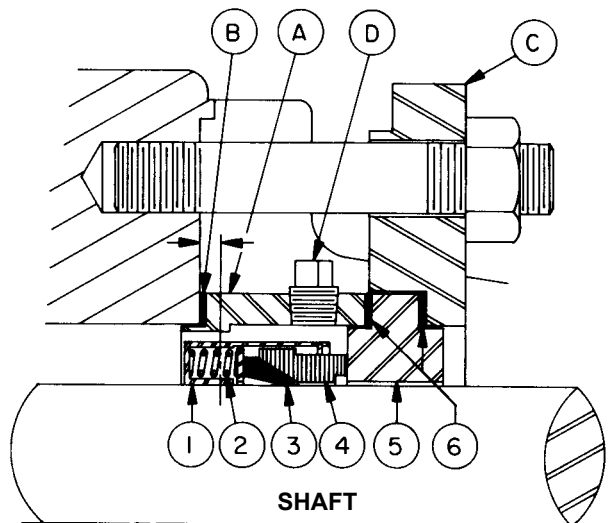

FIGURE 14
3. To remove the rotor, remove seal plate nuts from studs and remove seal plate, gaskets and stationary seat. Remove Packing box extension and gasket. Loosen set screws in mechanical seal retainer cartridge and remove from rotor shaft. **Refer to Figure 14, page 10.**
15. Inspect the mechanical seal for wear or damage. Refer to figure 14 for mechanical seal list of parts. In general, if the pump has been operated long enough to exhibit other worn parts, it is likely the seal will have to be replaced. Replacing individual seal parts is not recommended, i.e., a used seal washer will not perform satisfactorily when run against a new stationary seat.
Three components are furnished in mechanical seal assembly: Refer to figure 14, item numbers 1 thru 6.
Three pump parts necessary for mounting PTFE mechanical seal are illustrated in figure 14, item letters A, B, C and D.
Before installing parts contained in the mechanical seal, refer to figure 14, page 10 to become familiar with part name and location in packing box extension.
12. Place the tapered installation sleeve (if on hand) and install the seal on the shaft over the tapered sleeve. Position the seal on the shaft inside the rotor bearing sleeve bore with end of seal located 0.19 inch inside the machined face of the rotor bearing sleeve. Refer to Figure 14, page 10.
16. Place the seat gasket over the shoulder of the stationary seal seat and insert seat into the seal plate. Place the remaining seat gasket over shoulder of polished surface of stationary seat. Refer to Figure 14, page 10.